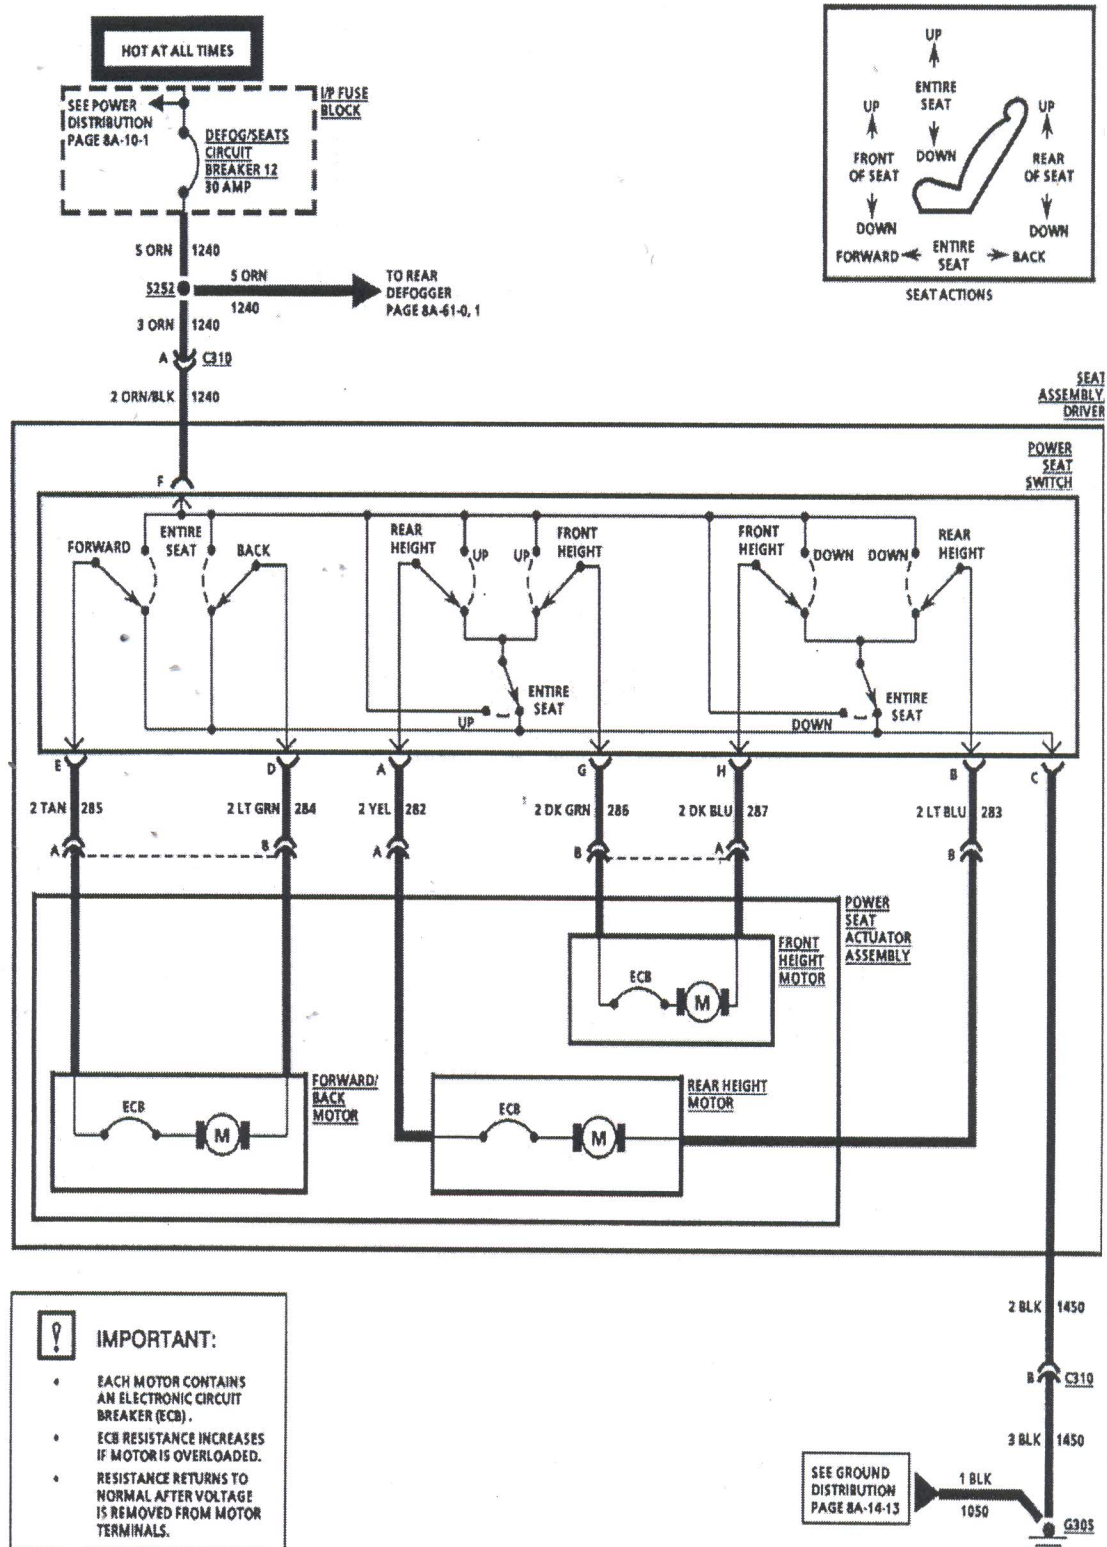

Figure 2
Please refer to *figure 2* for the seat adjustment wiring diagram.
- c. What happen to the system if *the connector at ground wire (C310)* in *figure 2* is disconnected? WHY?